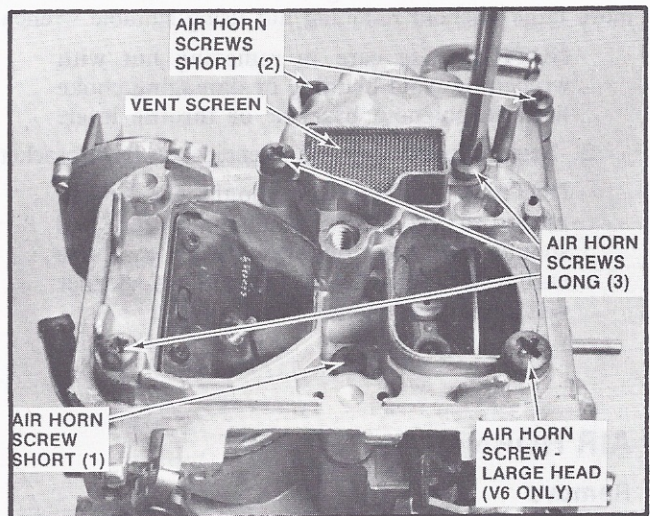

FIGURE 19 AIR HORN ATTACHING SCREWS & VENT SCREEN - V6 SHOWN
9. Remove the six (L 4) or seven (V6) air horn to bowl attaching screws and lockwashers (Figure 19). Remove vent and screen assembly.